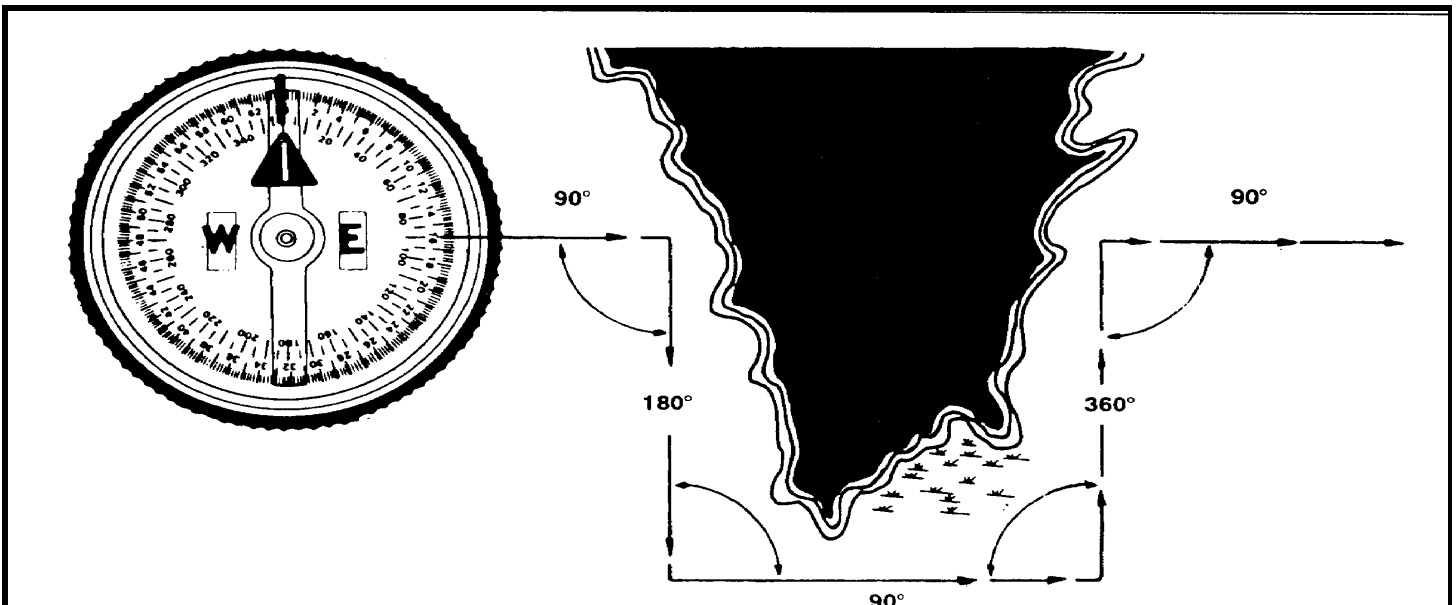

Figure 9-5. Bypassing an obstacle.
(1) For example, while moving on an azimuth of 90° , change your azimuth to 180° and travel for 100 meters; change your azimuth to 90° and travel for 150 meters; change your azimuth to 360° and travel for 100 meters; then change your azimuth to 90° and you are back on your original azimuth line (Figure 9-5).
(2) Bypassing an unexpected obstacle at night is a fairly simple matter. To make a 90° turn to the right, hold the compass in the centerhold technique; turn until the center of the luminous letter E is under the luminous line (do not move the bezel ring). To make a 90° turn to the left, turn until the center of the luminous letter W is under the luminous line. This does not require changing the compass setting (bezel ring), and it ensures accurate 90° turns.